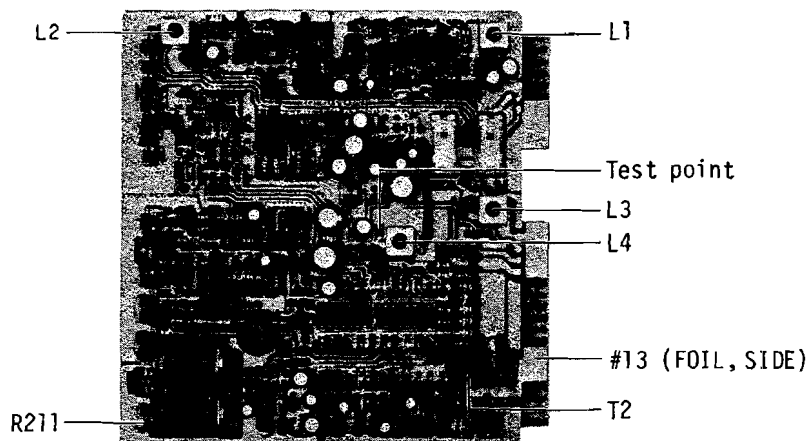

Fig. 8-20
- 8) Connect the GND side of an AC voltmeter or oscilloscope to the chassis and the HOT side to the test point, Fig. 8-20.